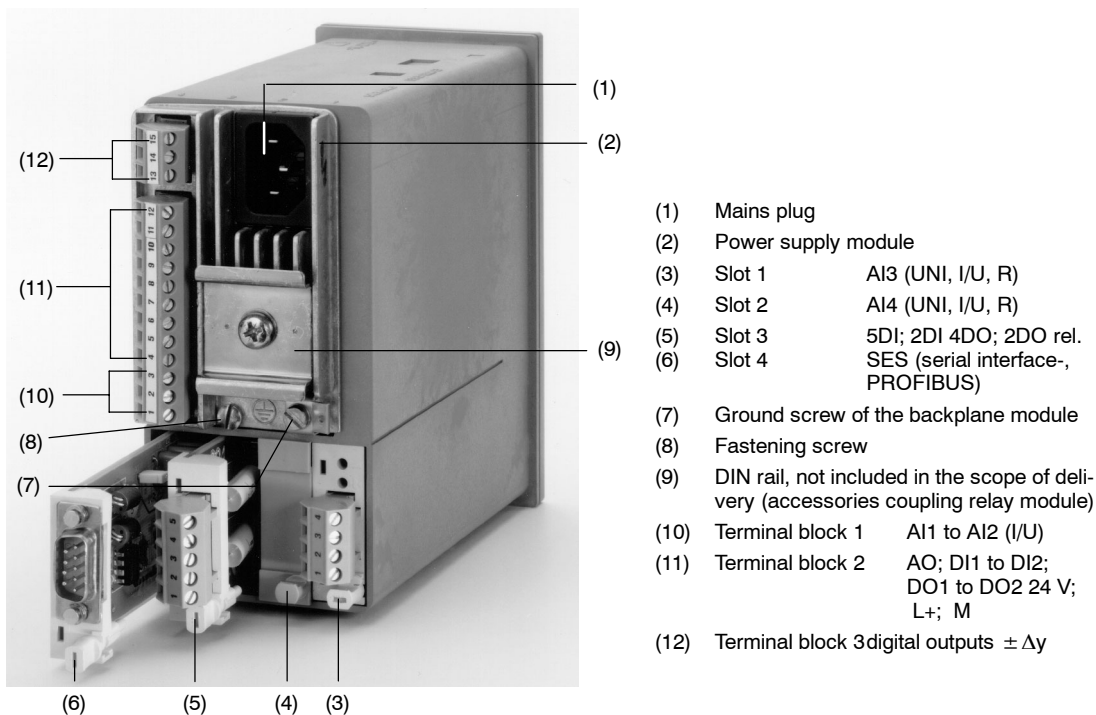
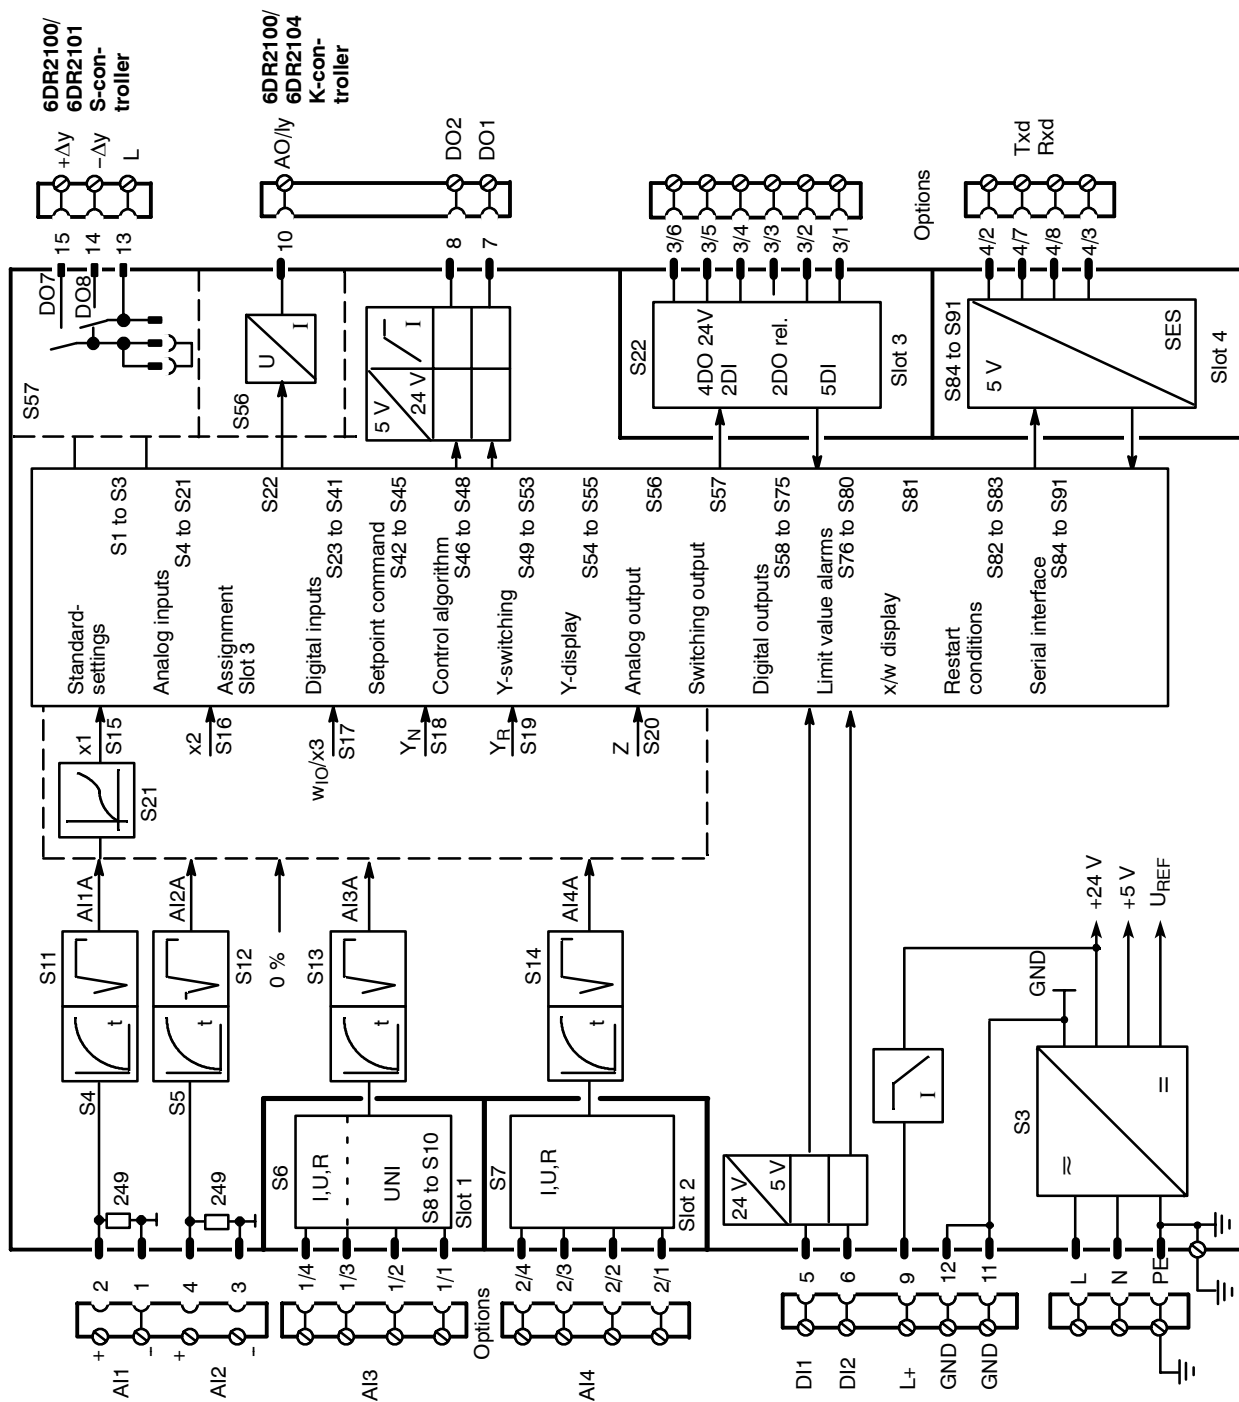

Figure 4-8 Controller backplane with terminal assignment of the standard controller
Figure 4-9 Block diagram SIPART DR21
Connect the PE conductor to the ground screw (see figure 4-8, page 128) on the back of the controller. When connecting to 115 or 230 V AC-mains supply, the PE conductor can also be connected through the three-pin plug (see figure 4-9, page 129). The controller's ground-connection may also be connected with the PE conductor (grounded extra low voltages).
The SIPART DR21 is designed with a high electromagnetic compatibility (EMC) and has a high resistance to HF-interference. In order to maintain this high operational reliability we automatically assume that all inductances (e.g. relays, contactors, motors) installed in the vicinity of or connected to the controllers are assembled with suitable suppressors (e.g. RC-combinations)! To dissipate interference, the controller must be connected at the PE-terminal of the cast body (figure 4-8, page 128 item 5) with good HF-conductance.
- 1) The connection between the PE conductor screw (figure 4-8, item 5, page 128) to ground must be established additionally for high electromagnetic compatibility (EMC) in 115/230 V-controllers. This connection must also be low resistive for high frequencies (Cu-band or Hf-strand). Alternatively at least 2.5 mm2 flexible should be used.